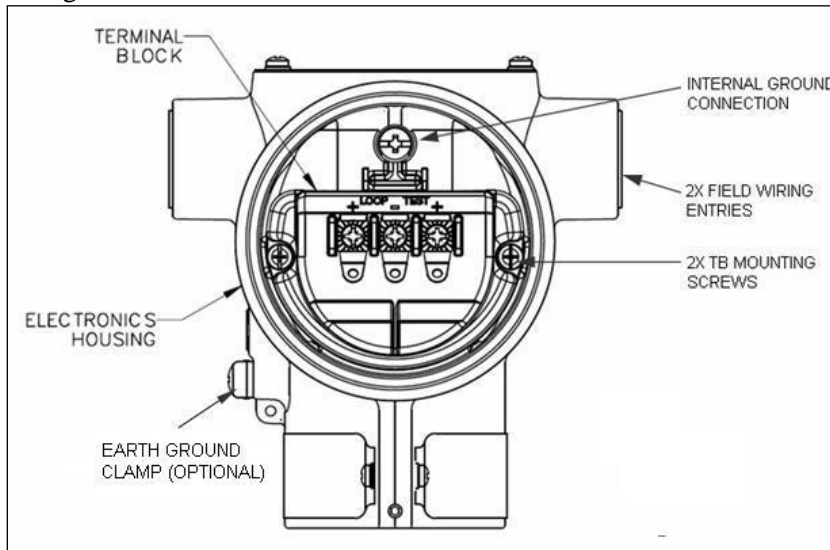

Figure 15 – Transmitter 3-Screw Terminal Board and Grounding Screw
Loop wiring is connected to the transmitter by simply attaching the positive (+) and negative (-) loop wires to the positive (+) and negative (-) terminals on the transmitter terminal block in the electronics housing shown in Figure 15.
As shown in Figure 15, each transmitter has an internal terminal to connect it to earth ground. Optionally, a ground terminal can be added to the outside of the electronics housing. While it is not necessary to ground the transmitter for proper operation, doing so tends to minimize the possible effects of noise on the output signal and affords protection against lightning and static discharge. An optional lightning terminal block can be installed in place of the non-lightning terminal block for transmitters that will be installed in an area that is highly susceptible to lightning strikes.
1. See Figure 15, above, for parts locations. Loosen the end cap lock using a 1.5 mm Allen wrench.
If your transmitter includes the optional lightning protection, connect a wire from the Earth Ground Clamp (see Figure 15) to Earth Ground to make the protection effective. Use a size 8 AWG or (8.37mm²) bare or green covered wire for this connection.